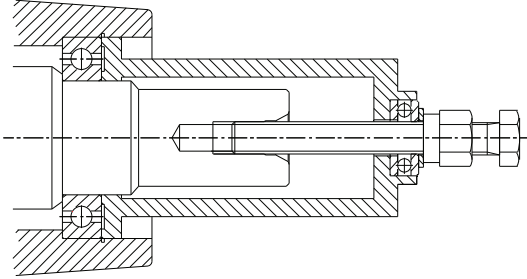

Fig. 2.6 Assembly of Bearing
- 4.1.7** Mount bearing (101) onto driving spindle 12 by bearing assembly sleeve (Fig. 2.6).